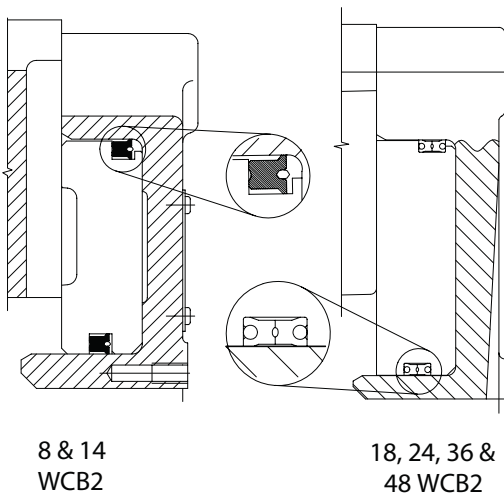

Figure 19
- 4.7.10 Install the new seals in the grooves in the piston, noting the orientation of the seal lips. See **Figure 19.**
Note : Some assemblies might have used a one piece bi-directional lip seal. That type of seal has been superseded by the use of TWO seals that fit back-to-back as shown in **Figure 19.**
- 4.9.11 Install the new seals in the grooves in the piston, noting the orientation of the seal lips. See **Figure 19**